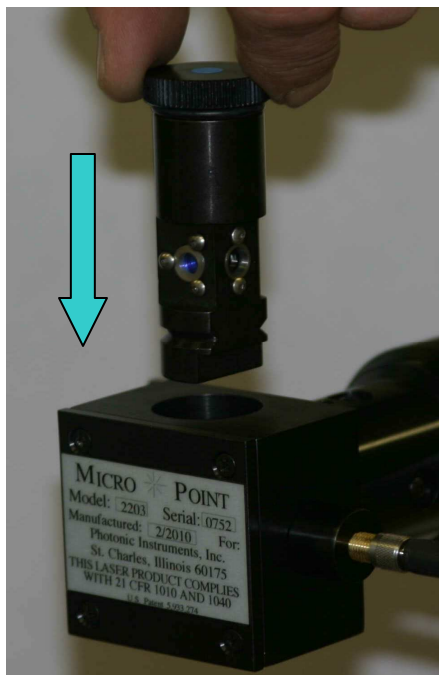

Figure 3-16: Inserting the Dye Cell into the Resonator Block.
- c) Place the cell in the resonator block and tighten the locking screw (Figure 3-16).